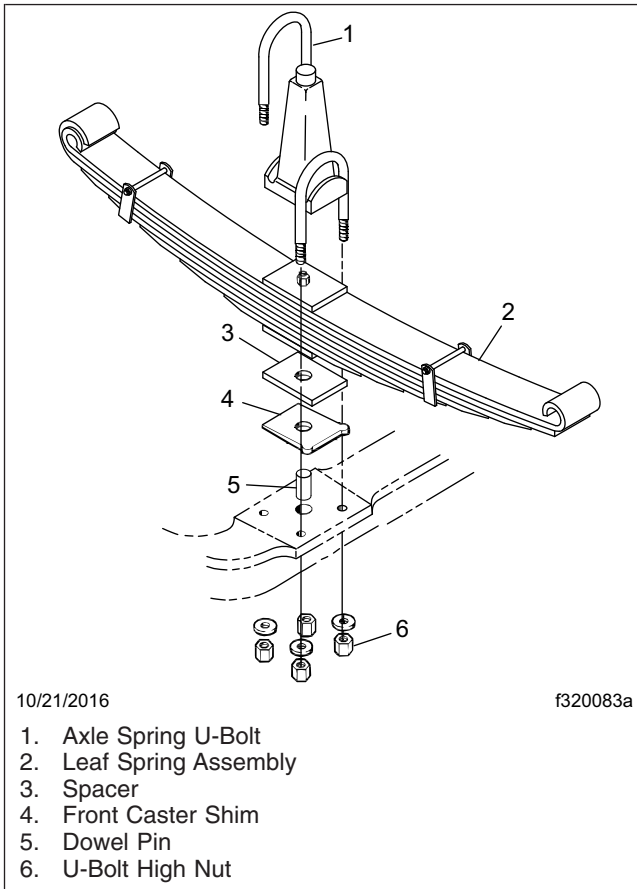

Fig. 13, Axle Spring Installation
Compare the caster angles with those shown in the appropriate table in Alignment Specifications in this section. If needed, adjust the caster angle by placing wedge-shaped shims between the axle spacer and the axle beam, as follows (see Fig. 13):
2. Back off the U-bolt nuts from the U-bolts on one side of the front axle. See **Fig. 13**.
IMPORTANT: Place front caster shims between the axle beam and the axle spacer, or between the axle beam and the shock absorber bracket. See **Fig. 13**.